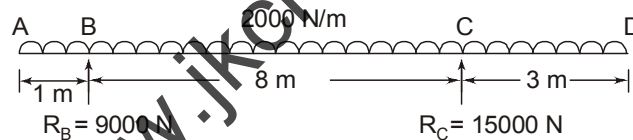

Fig.1
7. (a) When a bar of certain material 40 cm square is subjected to an axial pull of 1,60,000 N the extension on a gauge length of 200 mm is 0.1 mm and the decrease in each side of the square is 0.005 mm. Calculate Young's modulus, Poisson's ratio shear modulus and bulk modulus for this material. (10)
- (b) Draw S.F. and B. M. diagrams for the beam having overhangs on both sides and loaded as shown in Fig. 1. (20)